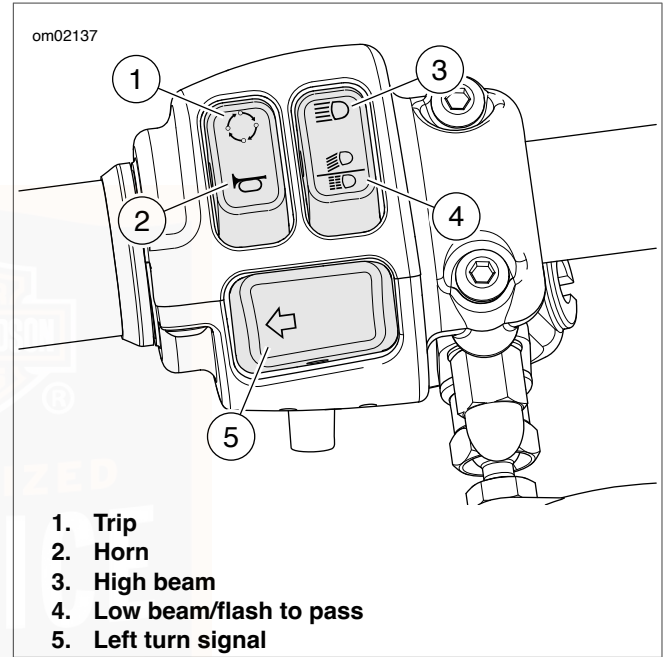

Figure 5. Left Hand Switch Module
See Figure 5. With the security fob present, press and hold the TRIP switch (1). The instruments and accessory circuit are powered. The headlamp and turn signal lamps remain off. While in accessory mode:
See Figure 5. Press the HORN switch to activate the horn. The horn can be activated for up to 10 seconds at a time. If the HORN switch is held for a longer period, the horn will automatically deactivate. Refer to Table 18.
See Figure 5. Press the high beam switch to activate the high beam. The (blue) high beam indicator lamp is lit when the high beam is on. Refer to Table 18.
Low beam: See Figure 5. Press the bottom of the switch to activate the low beam.
Activate: See Figure 5. Press the left turn signal switch to activate the left turn signal. Refer to Table 18.